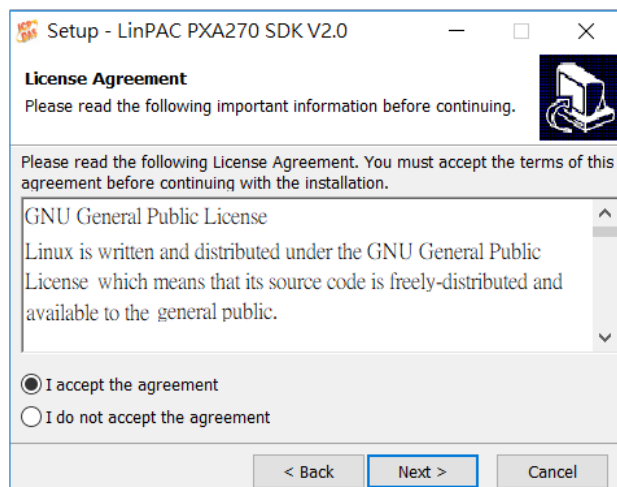

Figure 1.3.1-6.
4. The 'LinPAC PXA270 SDK' files will be extracted and installed and a progress bar will be displayed to indicate the status, refer to Figure 1.3.1-7.